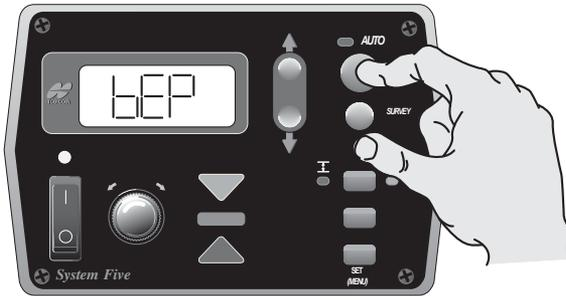

Figure 4-39. Select Beeper
1. From the Performance Menu, press the Auto button to select Beeper (Figure 4-39).